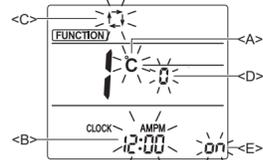

Fig. 4-2
- The Screen display setting screen will be displayed. (Fig. 4-2)
4.2. Changing the temperature unit <A> [Factory setting: °C] (Fig. 4-2)